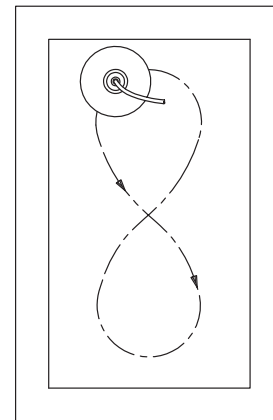

Figure 9
3. Hold connector and bushing firmly between thumb and forefinger; lightly polish in an elongated figure-8 motion to a length of approximately 9.837 [.3873]. See Figure 9.